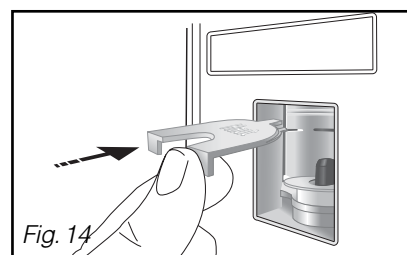

Fig. 14
- Clip the deflector with the top of the pump (Fig. 14).